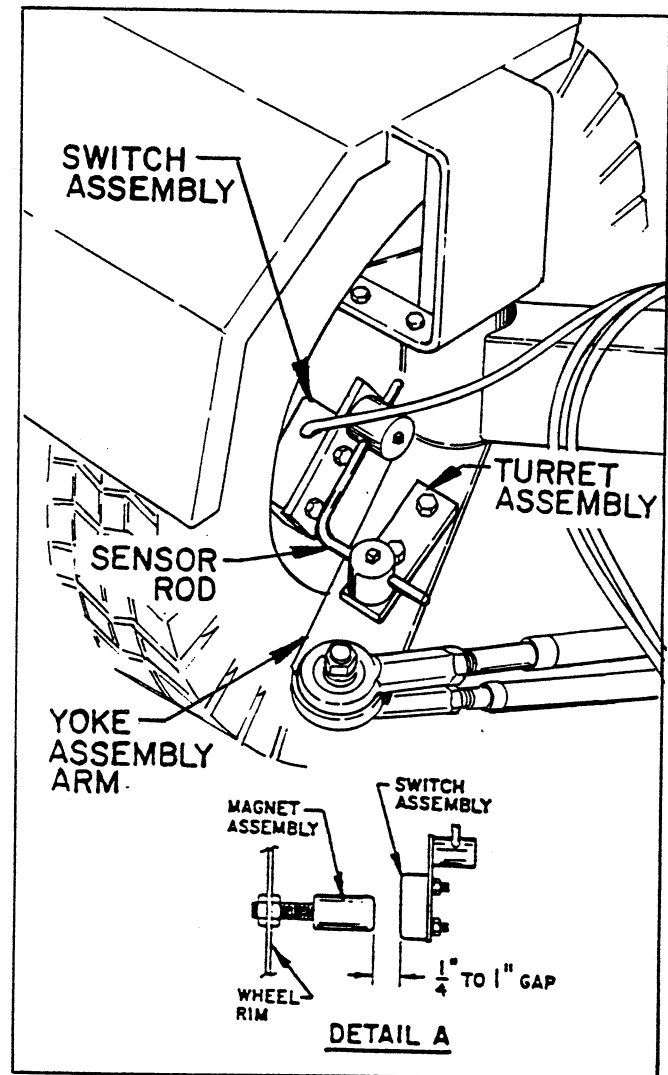

FIG. 1
■ Position the completed Sensor Bracketry as shown in FIG. 1. Adjust as necessary, so that as the Wheel rotates, the Magnets pass across the center of the Switch Assembly